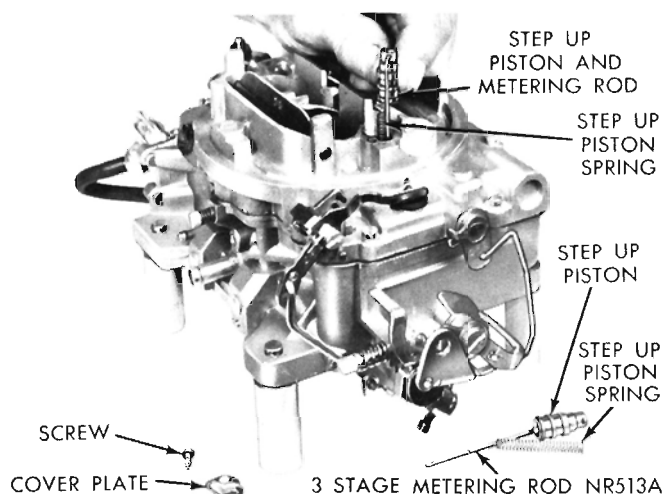

Fig. 2—Removing or Installing Step-Up Pistons and Rods
(4) Remove screws attaching step-up piston and rod cover plates. Hold cover down with a finger to prevent piston and rods from flying out. Lift off plates and slide step-up pistons and rods out of air horn, (Fig. 2). Remove step-up piston springs.
(5) Remove vacuum hose between carburetor throttle body and vacuum diaphragm.
(6) Remove clip from choke operating link and dis-